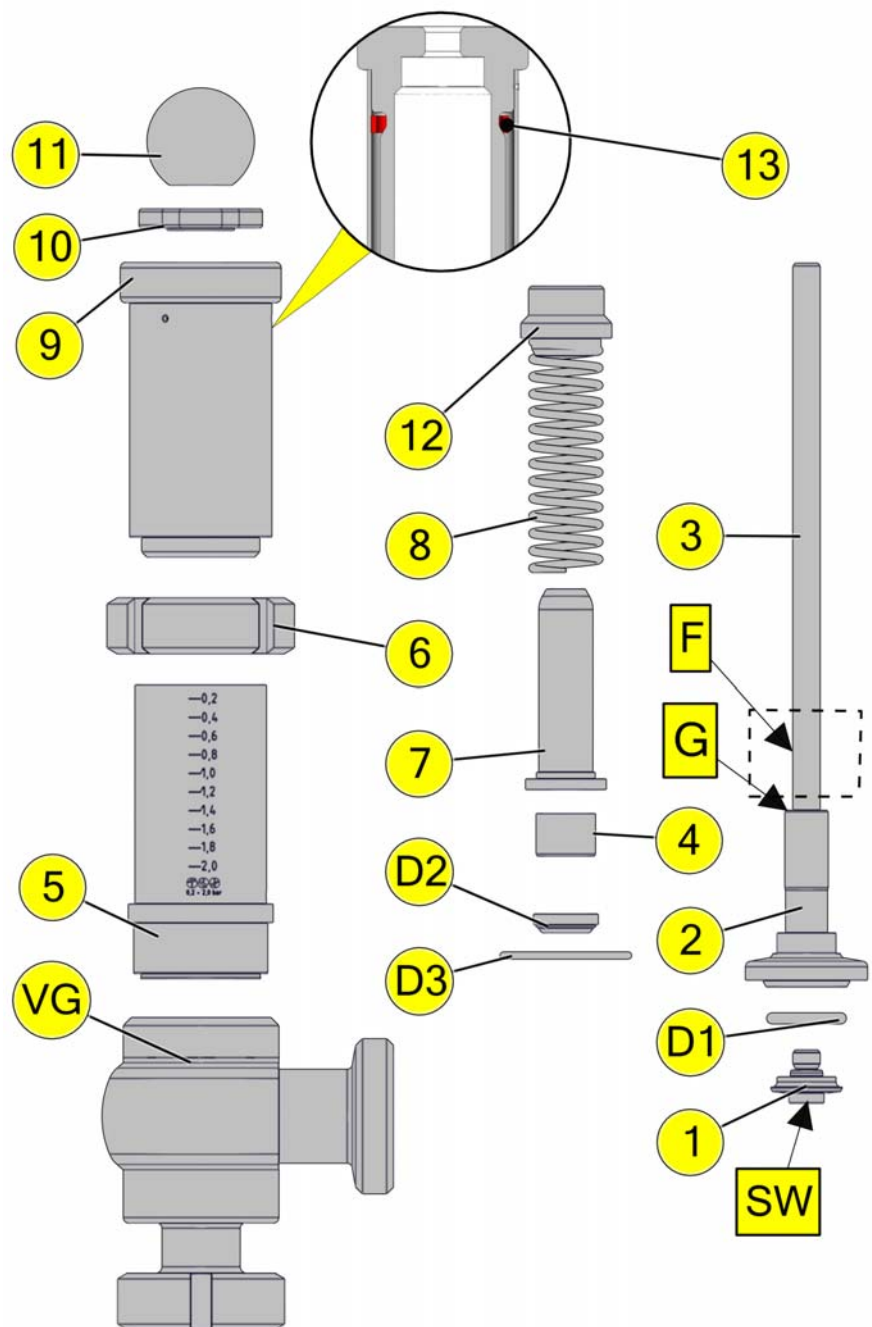

Fig. 1
- When pulling the spindle (3) from the spring housing (5), make sure that the thread of the spindle does not damage the bearing (4) or the lip seal (D2).
- The piston (2) is joined to the spindle with a high-strength screw locking device and must not be disassembled.
- Re-clamp the spindle at position (F) (see Fig. 1 /page 8) in the vice between the soft jaws.
- Unscrew the piston plate (1) above the width flat SW1 and remove the O-ring (D1).
- Unscrew the adjustment nut (9) from the spring housing (5). The pressure spring will relax.